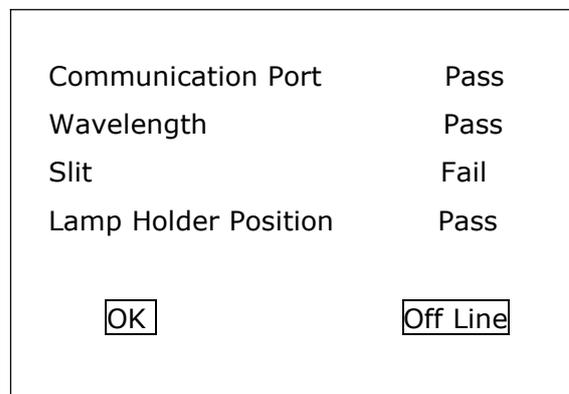

Figure 4-4
**If any self-test item fails (as shown in Figure 4-4), restart the workstation. If the self-test item fails again, please immediately contact our After-Sale Service.**